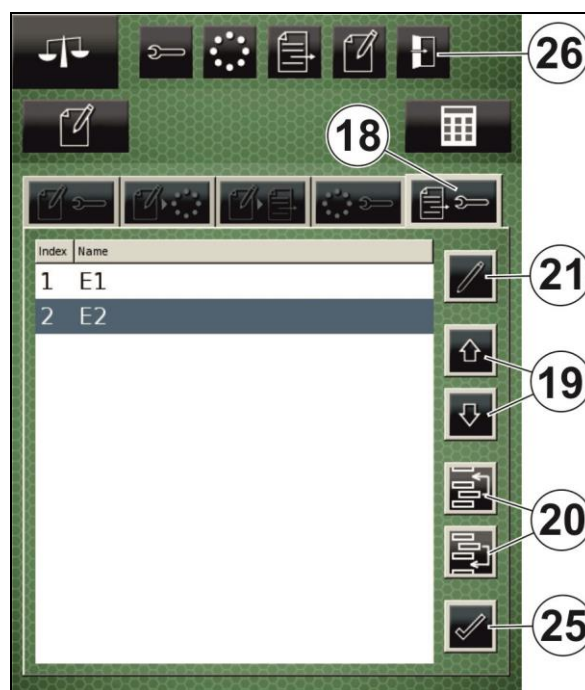

Fig. 192
20. Press the "Confirm" key (Fig. 192/25) to save the new or changed recipe.
21. Press the "Exit menu" key (Fig. 192/26) to call up the basic configuration of the terminal.